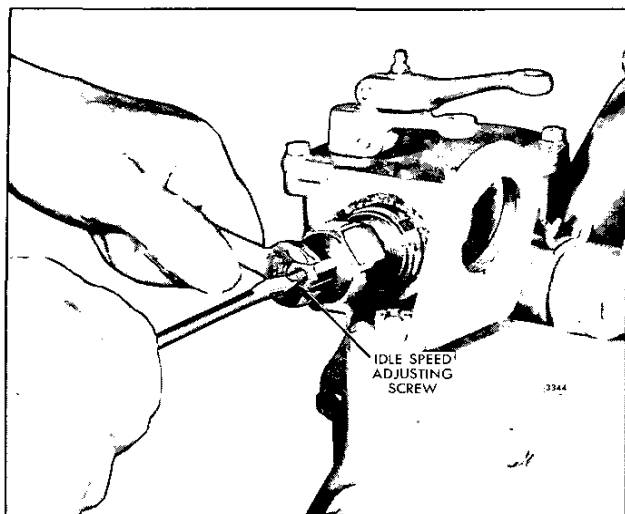
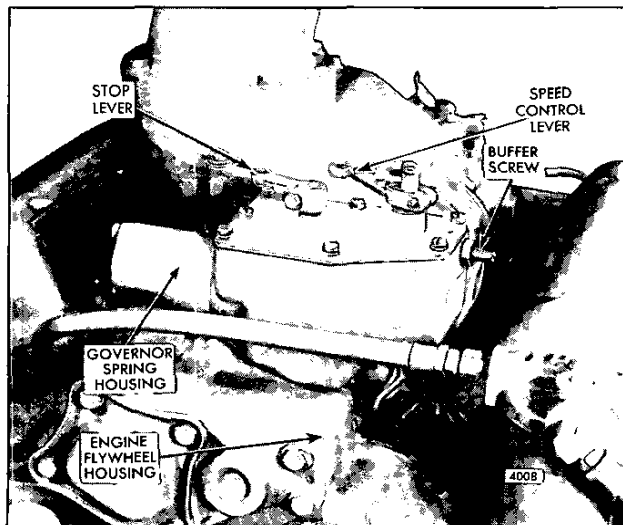

Fig. 8 – Adjusting Engine Idle Speed
Fig. 1 - Limiting Speed Governor Mounting
1. With the engine running at normal operating temperature and with the buffer screw backed out to avoid contact with the differential lever, turn the idle speed adjusting screw until the engine is operating at approximately 15 rpm below the recommended idle speed (Fig. 8).
The limiting speed mechanical governor is mounted at the rear of the engine, between the flywheel housing and the blower (Fig. 1). The governor is driven by the right blower rotor drive gear. The left blower rotor drive gear is driven by a shaft that passes through the governor housing from the engine gear train. There are two types of limiting speed governor assemblies. The difference in the two governors is in the spring mechanism (Fig. 8). One has a long spring mechanism, the other has a short spring mechanism.